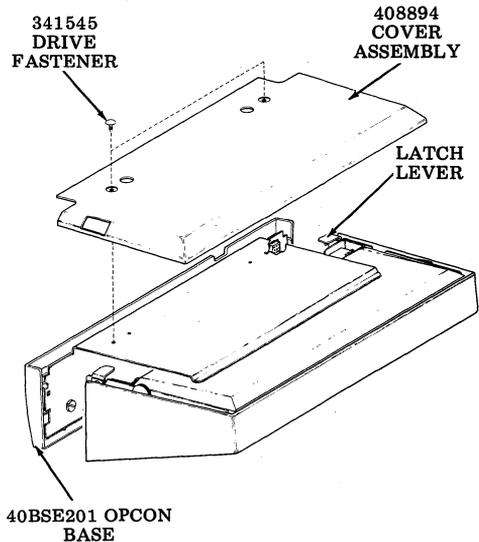

Fig. 4—408894 Cover and Opcon Base Removal
- 2.07 Remove the 408894 cover assembly (if base is so equipped) by prying between the base and cover until the two 341545 Drive Fasteners are free from the base. After the cover assembly has been removed, pull up on the two latch levers and move the base to the rear until it is free of the keyboard. A screwdriver or similar tool may be used to aid in the separation of the base and cover. Set the cover assembly and keyboard aside. See Fig. 4.
2.17 Place the base assembly over the keyboard (cable to the rear). Pull up on the two latch levers, bring the base forward to engage locating tabs and push down on latch levers to engage. If the 408894 cover assembly (see Fig. 4)